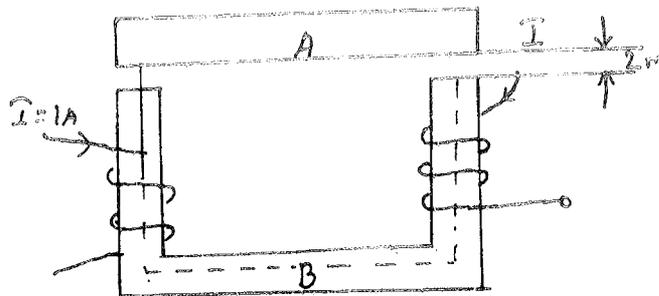

Fig. 1
- (b) (i) Explain the two different types of magnetic circuits with neat diagram. (10)
- (ii) The magnetic circuit frame shown in Fig. 1 is built of iron of square cross-section of 3 cm. Each air gap is 2 mm wide and each of the coil is wound with 1000 turns. The relative permeability of part A and B are 1000 and 1200 respectively. Calculate the total reluctance. (6)